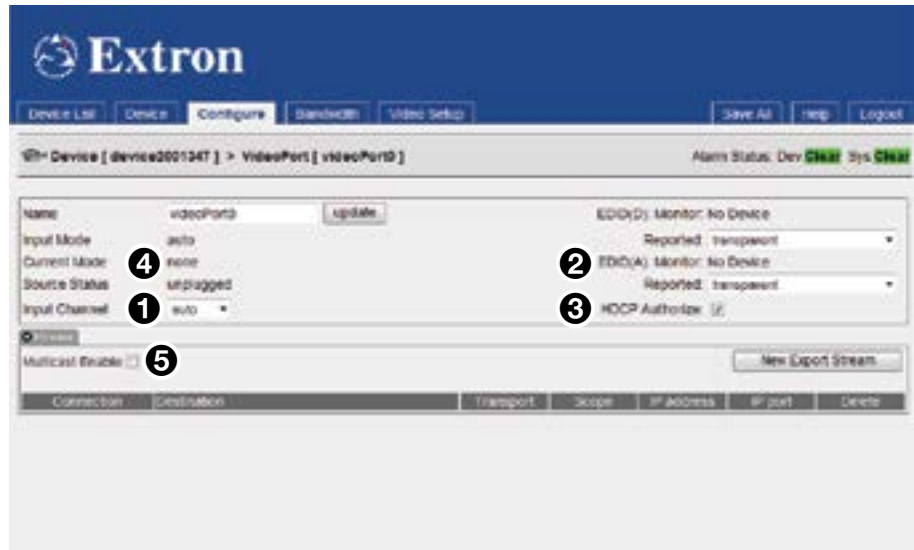

Figure 48. Configure Tab (Video Options)
10. Ensure the Input Channel is set to **auto** (see figure 48, ❶).
11. Set the EDID (D) for the digital video input and the EDID (A) for the analog input, as required (see figure 48, ❷).
12. If a digital source with HDCP is connected, ensure that the **HDCP Authorize** box is selected (❸).
13. Ensure the Current Mode shows the format of the connected source (❹).
14. If **RTP multicast** source streaming is required, select the **Multicast Enable** box (❺). A dialog is displayed asking for a multicast address (see the figure to the right). This must be obtained from your network administrator.